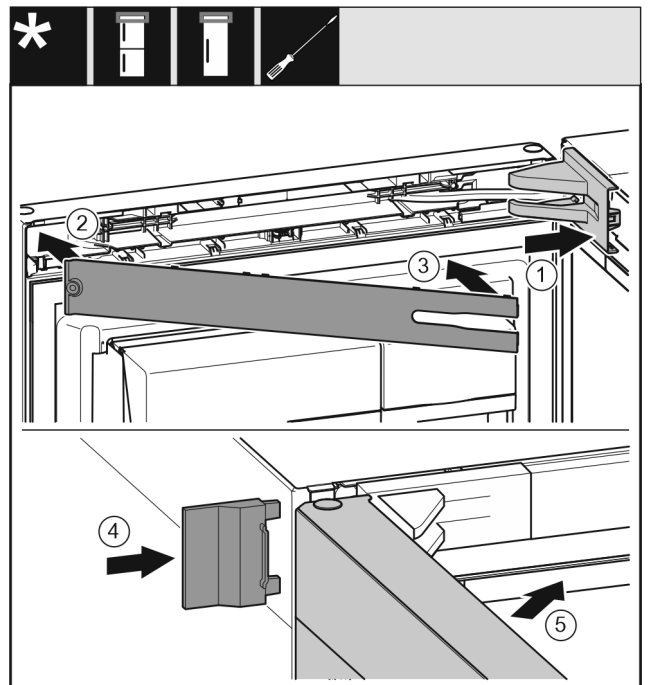

Fig. 24
- ▶ Position the bearing bracket cover and latch it in place. If necessary push it apart carefully. *Fig. 24 (1)*
- ▶ Position the panel. *Fig. 24 (2)*
- ▶ Swing in the panel and latch it into place. *Fig. 24 (3)*
- ▶ Slide on the outer cover. *Fig. 24 (4)*
- ▶ Close the upper door. *Fig. 24 (5)*